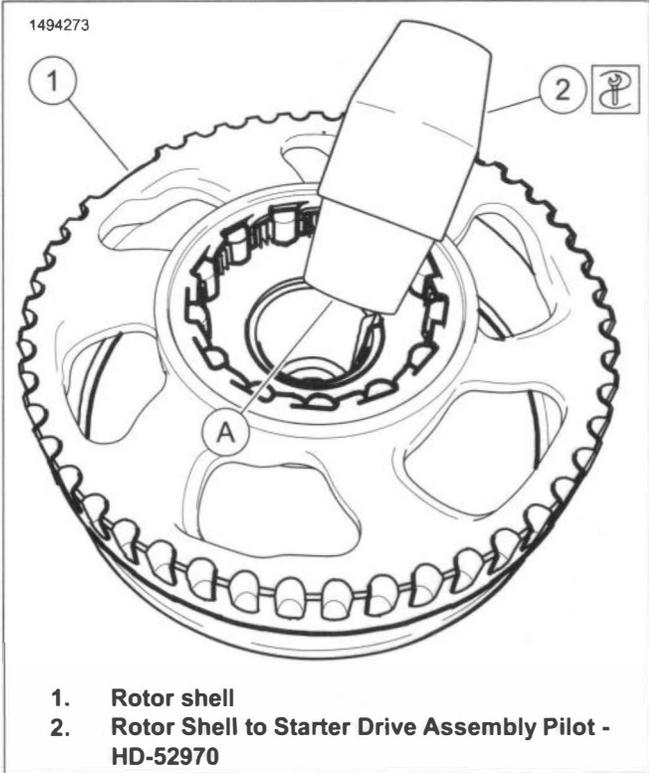

Figure 8-13. Installing HD-52970
- a. See Figure 8-13. Install assembly pilot (2) with the side marked **A** into rotor shell (1).